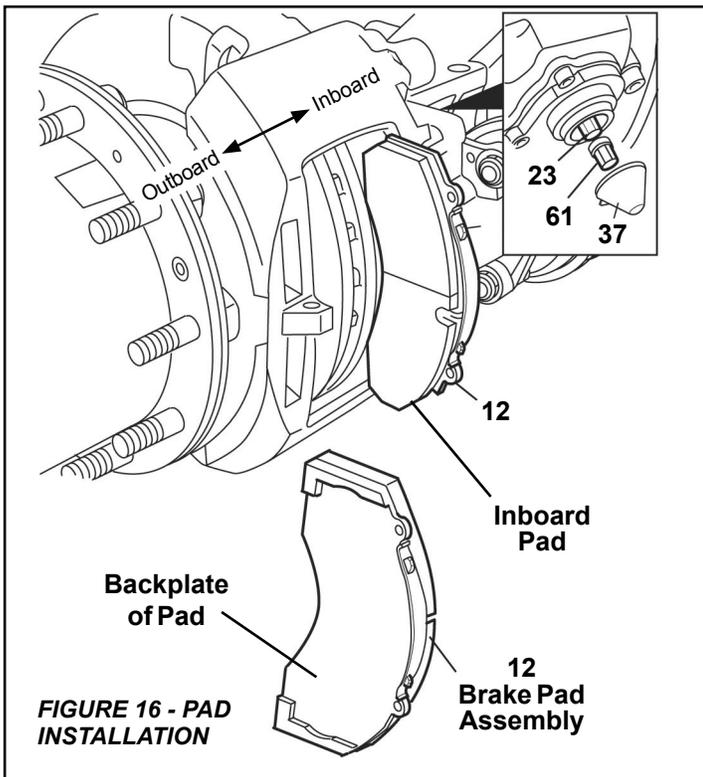

FIGURE 16 - PAD INSTALLATION
Install the supplied washer (45) and spring clip (26) to the pad retainer pin (44). It is recommended that the pad retainer pin (44) be installed pointing downwards (see Figure 16).